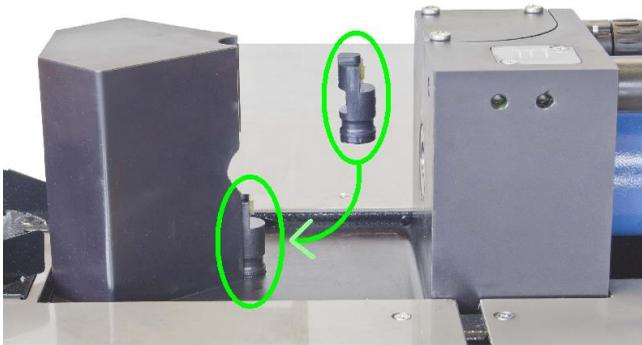

Fig. 58
- Put the set up bolt according Fig. 58